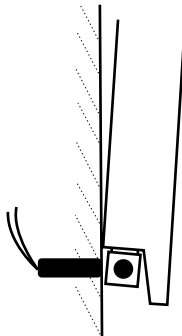

Figure 2.
- For recessed mount, install switch in wall at right angles to magnet, forming an “L” with the switch and magnet as in Figure 2.